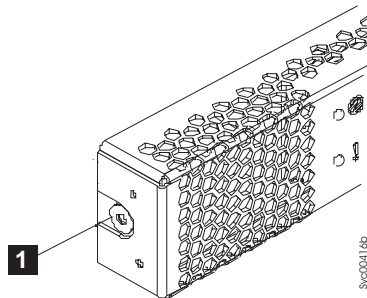

Figure 73. Left release button of a 2145-CG8 or 2145-CF8 service controller
6. Locate the recessed, blue service-controller release buttons on each side of the controller. See Figure 73 on page 87.